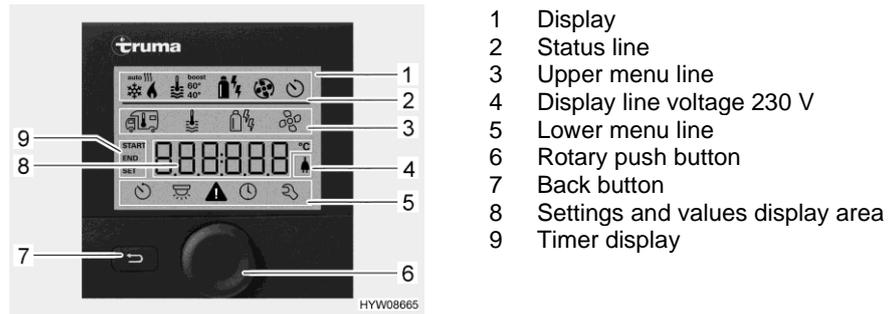
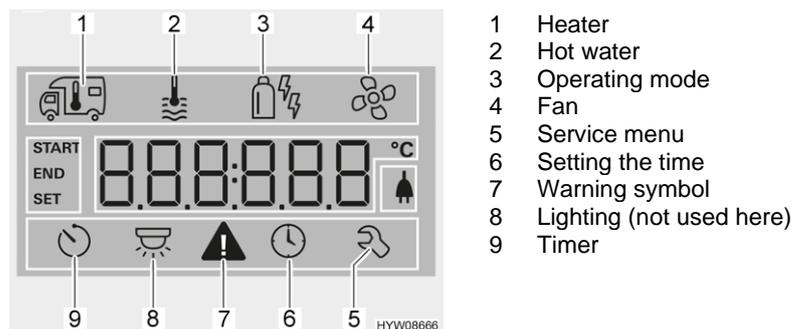

Fig. 110 Operating unit with displays
Fig. 111 Display (operating unit)
- Status line (Fig. 110,2)
- Upper menu line (Fig. 110,3)
- Display area (Fig. 110,8)
- Lower menu line (Fig. 110,5)
- Press and hold the rotary push button (Fig. 110,6) for approx. 3 seconds. Both menu lines (Fig. 110,3 and Fig. 110,5) are displayed. The first symbol flashes.
- Turn rotary push button (Fig. 110,6) until the required menu symbol flashes.
- Press rotary push button to save the value set. If you do not wish to change the value originally set: Press back button (Fig. 110,7).
- Turn rotary push button (Fig. 110,6) until the heater menu symbol (Fig. 111,1) flashes.
- Press rotary push button to save the value set. The symbol in the status line (Fig. 110,2) flashes until the room temperature set is reached. If you do not wish to change the value originally set: Press back button (Fig. 110,7).
- Turn rotary push button (Fig. 110,6) until the hot water menu symbol (Fig. 111,2) flashes.
- Press rotary push button to save the value set. The symbol in the status line (Fig. 110,2) flashes until the hot water temperature set is reached. If you do not wish to change the value originally set: Press back button (Fig. 110,7).
- Turn rotary push button (Fig. 110,6) until the menu symbol operating mode (Fig. 111,3) flashes.
- Press the rotary push button to save the set operating mode. To revert to the original setting: Press back button (Fig. 110,7).
- Turn rotary push button (Fig. 110,6) until the fan menu symbol (Fig. 111,4) flashes.
- Turn rotary push button (Fig. 110,6) until the timer menu symbol (Fig. 111,9) flashes.
- Press rotary push button. The timer is activated. The timer symbol (Fig. 111,9) flashes when the timer is programmed and active.
The warning symbol (Fig. 111,7) flashes in the event of a warning. The heater continues to operate. In the event of only a temporary fault, the warning symbol goes out automatically.